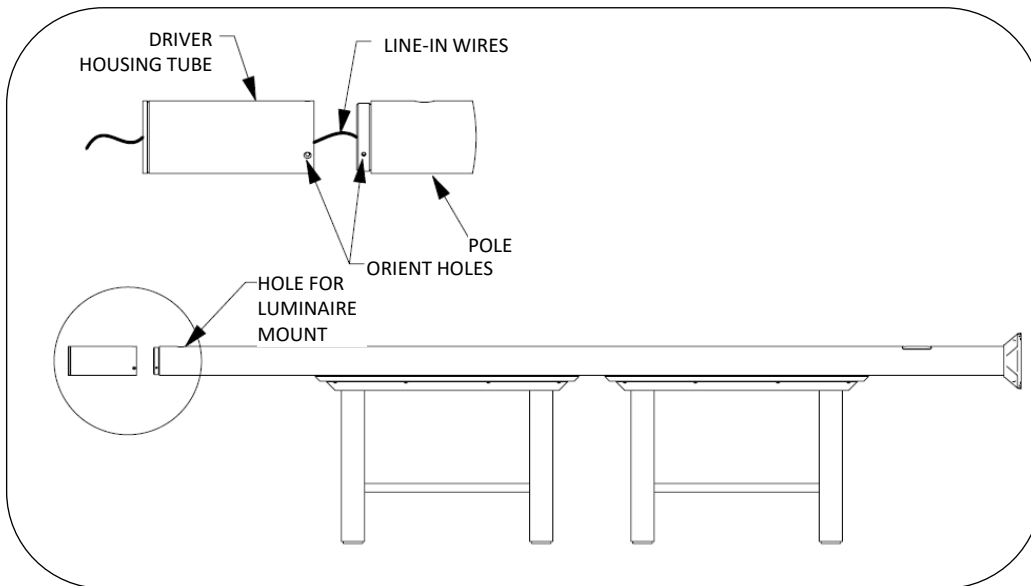

Fig. 5 – Remove driver plate assembly
4. Run wiring through driver tube, with holes at the bottom of the tube oriented closest to the pole, see Fig. 5.